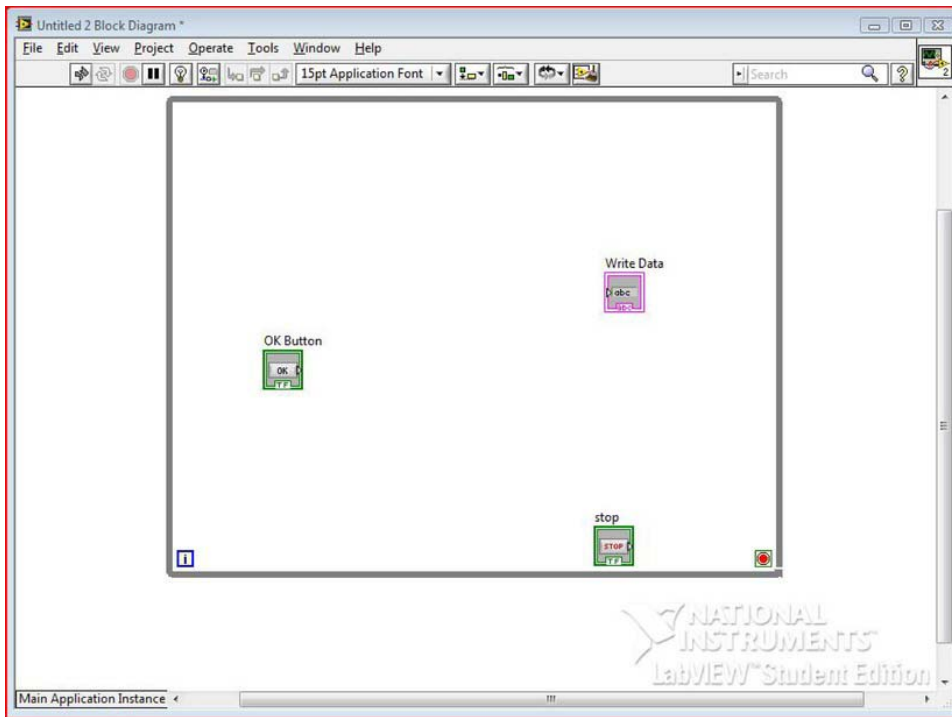

Figure 10-24. Add a While Loop to the Block Diagram.
2. First, go to the Functions Palette ► Programming ► Structures ► While Loop, and drag the While Loop onto the Block Diagram. Figure 10-24 shows this process.